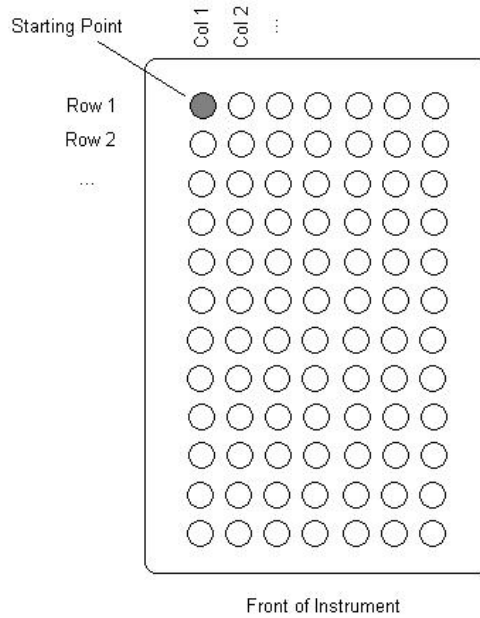

Fig. 14
**NOTE:** You must choose the starting point carefully, once the starting point is defined, there is no way to place cores above or to the left of the starting point unless the array is ended, the complete option selected, and is powered down. See Fig 14